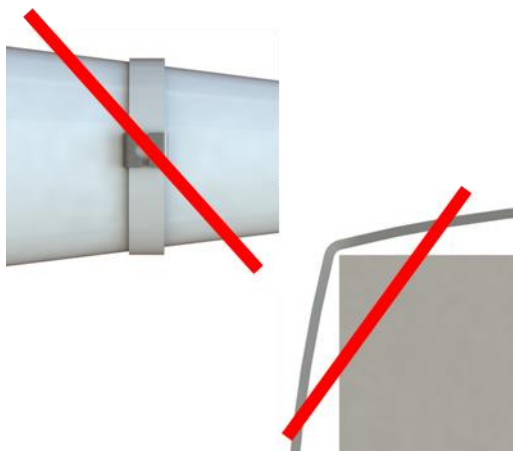

Figure 29
- Avoid sharp corners, add largest radius possible on square corners (Fig. 29)
- Do not install clamps on tapered surfaces or on tube bends (Fig.29)